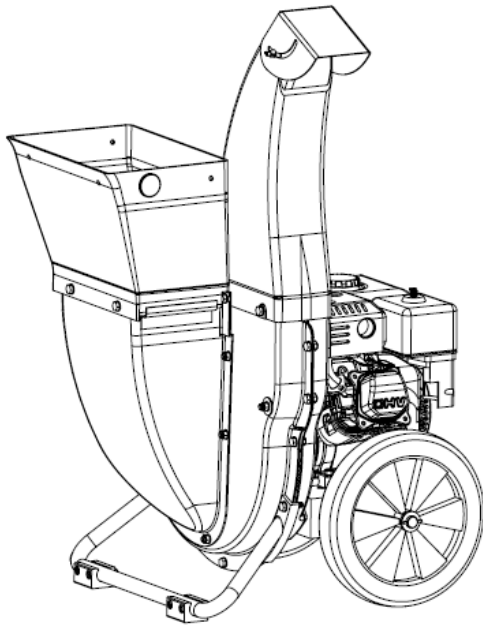

Figure 4
9. Attaching the lower leaf funnel section. (Figure 4)